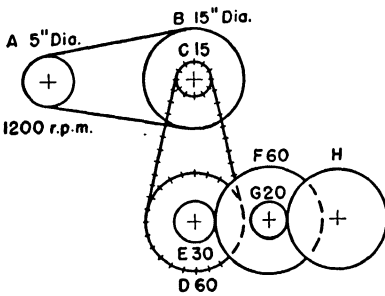

Fig. P 11.3
11.3. Gear *H* in the train shown in Fig. P 11.3 is to rotate at approximately 14.3 rpm. Determine the number of teeth on gear *H*. Do *H* and *A* rotate in the same or opposite directions?